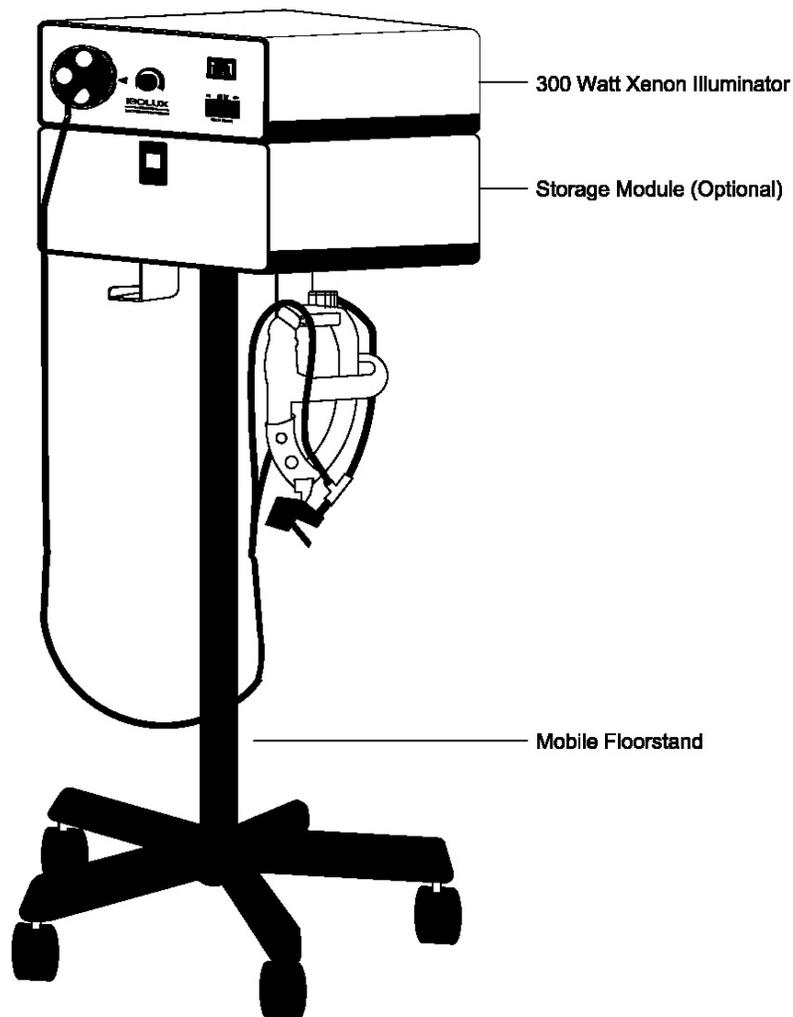

Fig.1
The Xenon Fiberoptic Light Source is adaptable to a mobile floorstand with 360° swivel, as shown in Figure 1. Additionally, an optional Storage Compartment can be adapted to the Fiberoptic Light Source, which can serve as a drawer for Headlight and cable, loupes and video camera control.
2. Remove the cover by removing the six (6) screws on the side of the unit. Use Phillips screwdriver (see figure 1). Lift cover to remove.